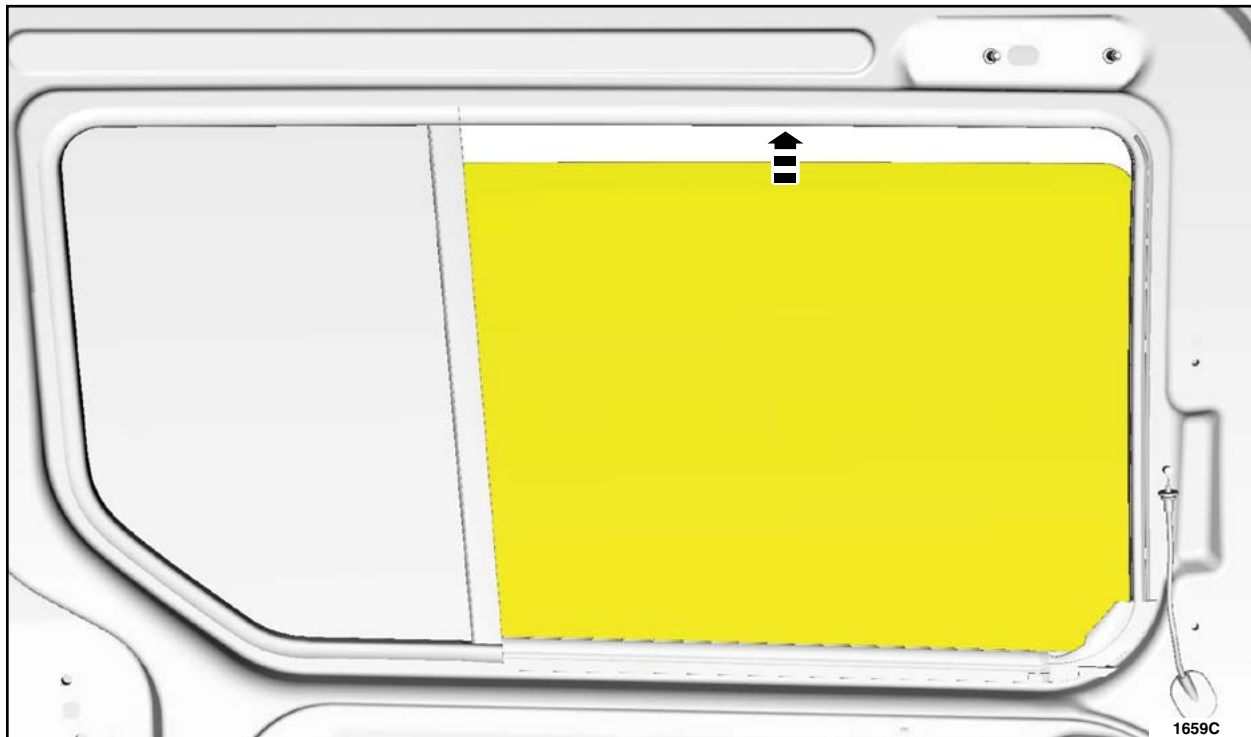

FIGURE 9
2. Raise the sliding door glass to the full up position. See Figure 9.